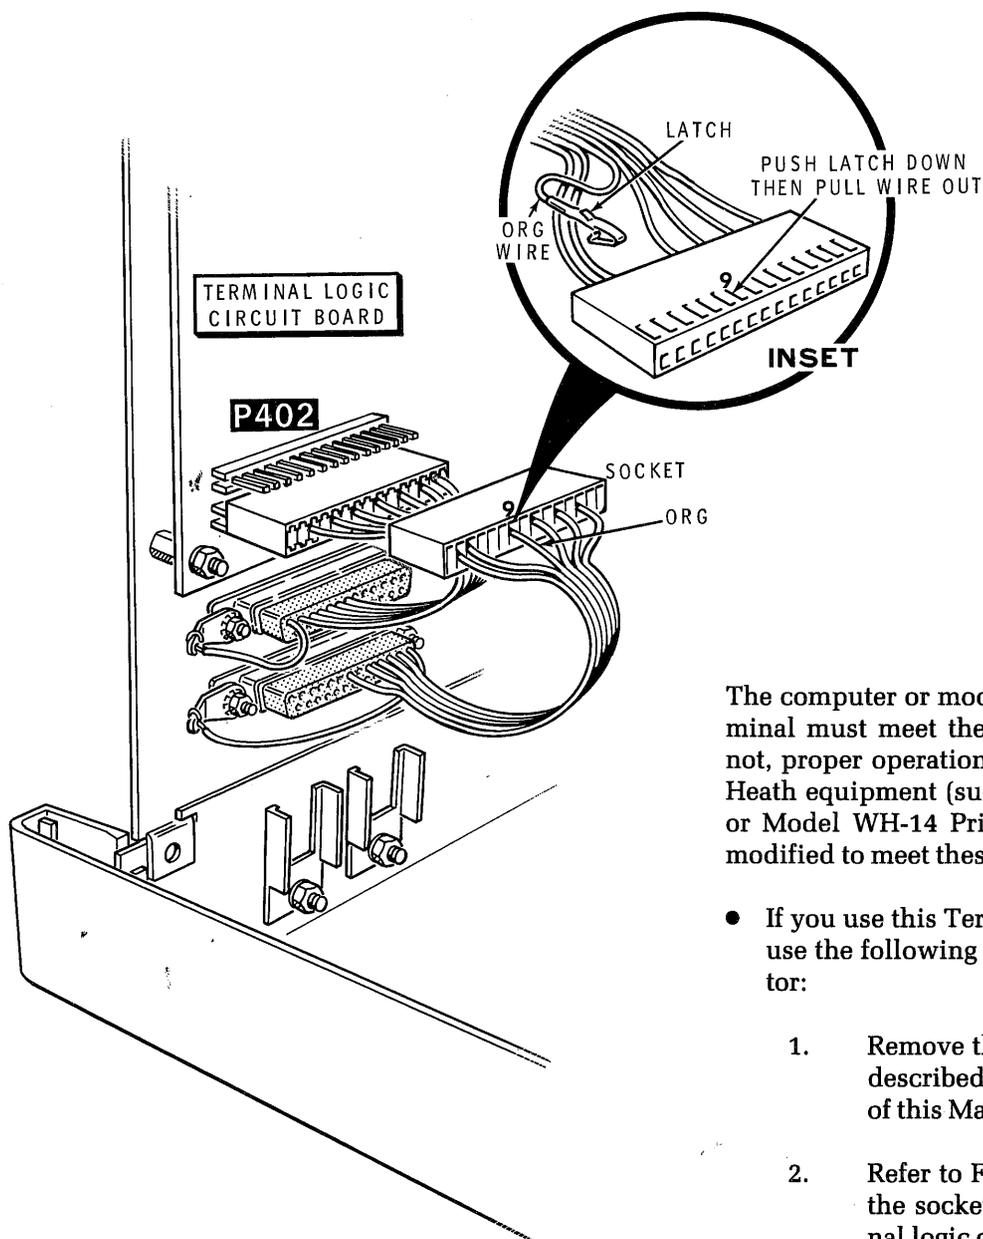

Figure 3-2
2. Refer to Figure 3-2 and carefully unplug the socket from plug P402 on the terminal logic circuit board.
3. Refer to the inset drawing on Figure 3-2 and carefully remove the orange wire from pin 9 of this socket.